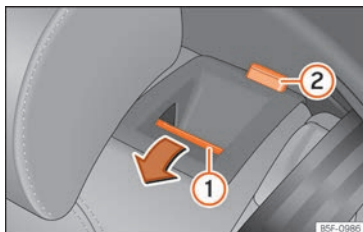

Fig. 161 On the rear seat backrest: release button ①; red mark ②.
- Push the unlock button » Fig. 161 ① forwards and at the same time lift the backrest.
- The rear seat backrest is not engaged when the red marking of the button ② is visible.
The rear seat backrest is not engaged when the red marking of the button » Fig. 161 ② is visible.